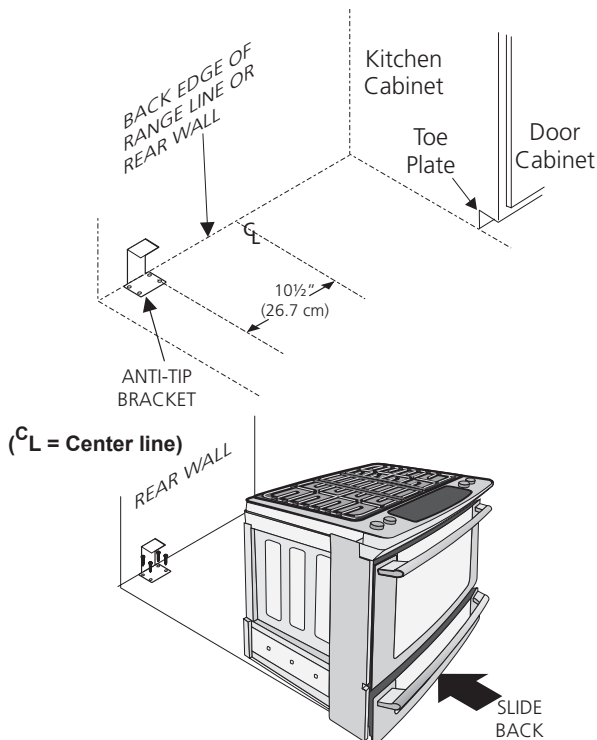

Figure 21
1. Draw a center line (CL) on the floor where the range should be installed. Also draw a line on the floor at the range back position if there is no wall.
2. Unfold paper template and place it flat on the floor with the right rear corner positioned exactly on the intersection of the center and back lines you just drew before. (Use the diagram below to locate brackets if template is not available (Figure 21)).
6. Slide range into place making sure structure of the range is trapped by the anti-tip bracket (Figure 21). Lower the range by adjusting the 4 levelling legs until the underside of the cooktop is sitting level on the countertop. Refer to "Levelling the Range" section.